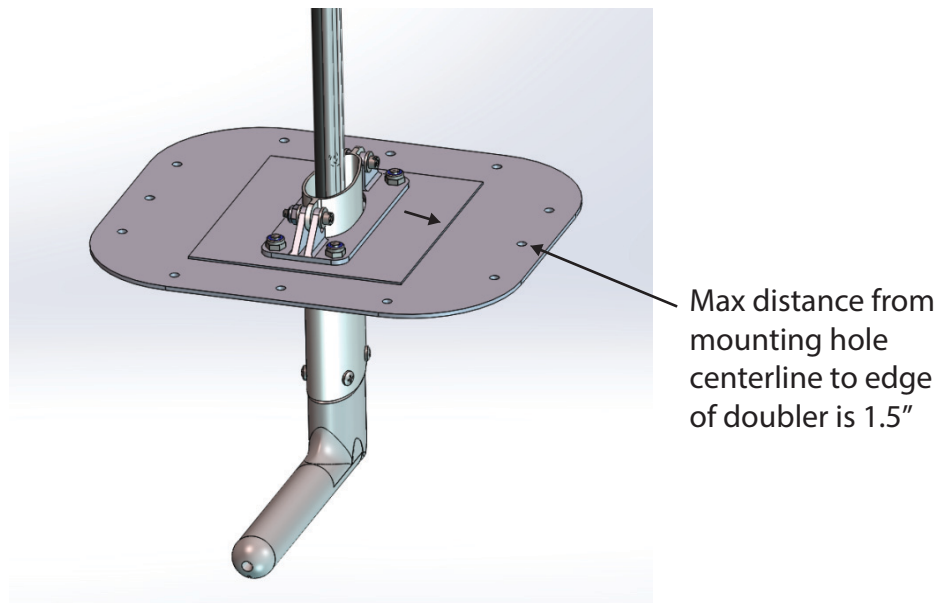

Figure 5-3. GAP 26 Shown with Inspection Panel and Doubler Plate
- If a doubler plate is required for the installation, refer to AC 43.13-1B, Chapter 4 for appropriate fabrication and riveting methods. Recommend ensuring doubler plate perimeter be no further than 1.5" from the centerline of the inspection panel mounting screws (see Figure 5-3).